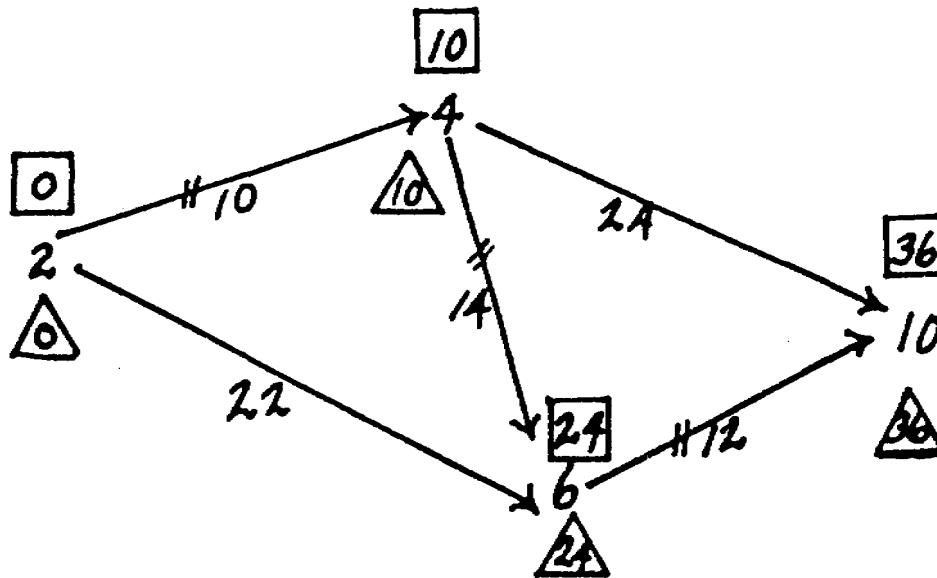

Figure 4-2 Project duration.
a. Criteria. One criterion for choosing a task or tasks for reduction is used on cost. For military purposes where cost is not a factor, the commander may use as his criterion manpower or equipment. For the purpose of this lesson, use the basis of cost. To illustrate the use of the critical path method to reduce a project duration and determine cost, assume that the network shown in figure 4-2 represents a project wherein the time is to be reduced.
b. Computation. The project duration in figure 4-2 amounts to 36 time units. Using the information in table 4-1 as it is taken from
the network in figure 4-2, review the following problems: